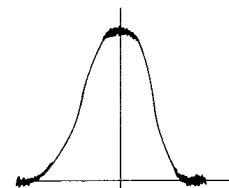

Fig. 11
(3)						Repeat (1) and (2)
4. In item 1, set the capacitance of the variable capacitor to minimum and adjust red and blue cores of T253 so that the waveform is as shown in Fig. 11. As T253 contains a 455kHz ceramic filter, sometimes the center of the marker will not correspond to that of the waveform.